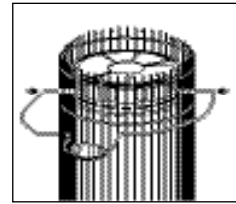

Fig.6
**D) INSTALLING CARRYING HANDLE:(Fig. 6)**